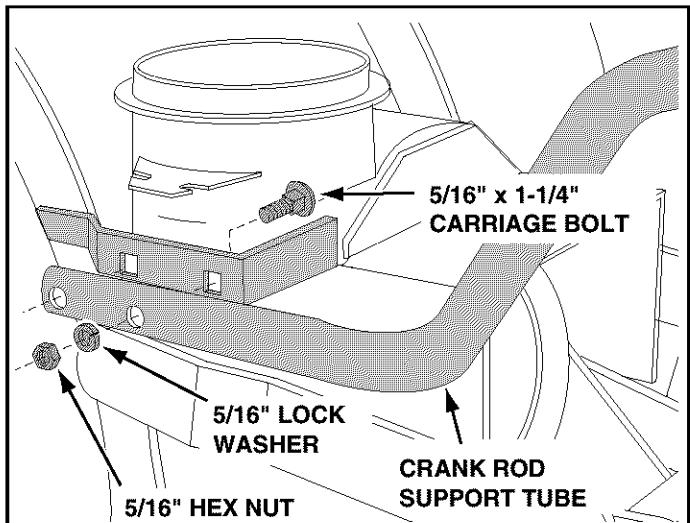

FIGURE 17
- Assemble the crank rod support tube to the bracket on the left side of the thrower housing using two 5/16" x 1-1/4" carriage bolts, 5/16" lock washers and 5/16" hex nuts. See figure 17.